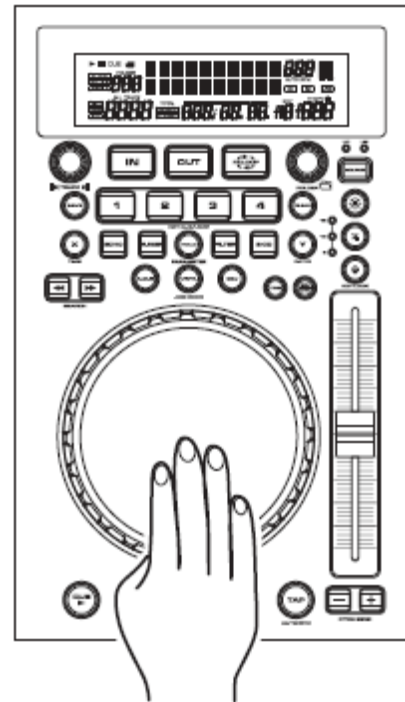

Figure 33
You may change the *Pitch Slider's* (10) operating range at any time. To change the operating range be sure the pitch function is turned on, see *Figure 33*. The pitch percentage can be changed between +/-6%, +/-10%, and +/-16%. 6% will allow the least amount of pitch manipulation and 16% will allow the most amount of pitch manipulation. To adjust the different ranges, press the *Pitch On/Off Button* (4) and tap on the *Pitch Range Button* (5) until your desired value is reached, see *Figure 28*.